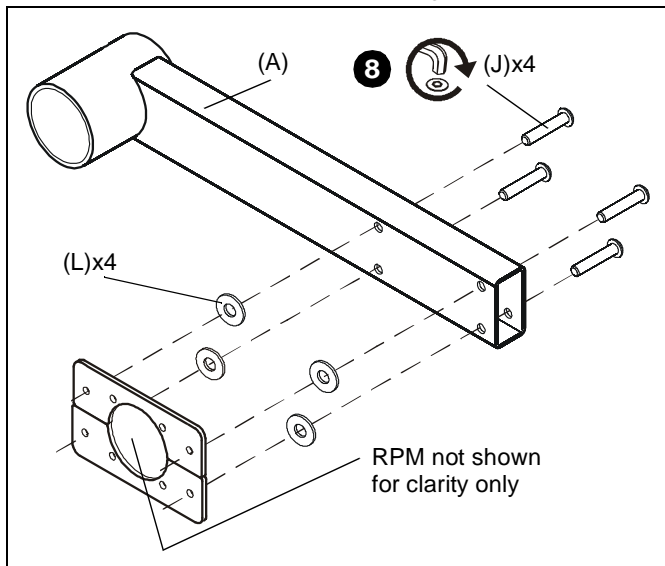

Figure 4
6. Insert four 1/4"-20x1-1/4" (J) button head cap screws from the top of the projector arm. (See Figure 4)